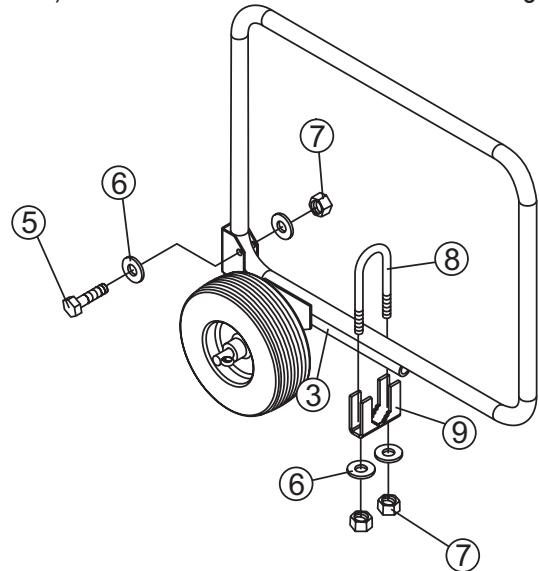

Figure 2. Securing the Axle Mount to the Frame
2. Turning your unit on its side, or while having a second person lifting the side in the air, place the axle mount under the frame tubing on the side of the unit as shown in Figure 2.